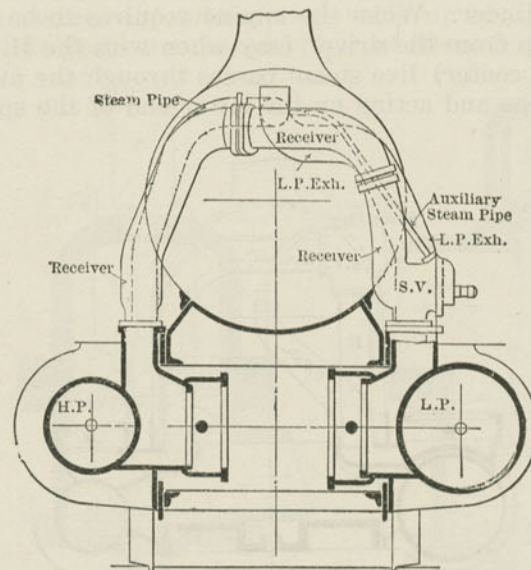

Fig. 323. Two-Cylinder Compound.
*A.* (1) With automatic "interceptors" or starting gears but without independent H. P. exhaust for starting: the von Borries of 1899, the von Borries-Swiss, the Worsdell, the Schenectady (Pitkin), the Dean, the Brooks (Player), the Rogers, the Baldwin (Vauclain), and the intermediate types of von Borries.
(2) With automatic starter but no interceptor nor independent H. P. exhaust for starting: the Lindner, the Meyer-Lindner, the C. B. & Q. Lindner, the Pennsylvania Railroad Lindner, the Cooke, and the Gölsdorf.
(3) With interceptor and independent H. P. exhaust at starting; the Mallet (old and new,) the Rhode Island (Batchellor,) the Richmond (Mellin,) the Pittsburg (Colvin,) and the latest von Borries.
*A.* A combined intercepting and starting valve which, when the engine is working compound, permits steam to flow from the receiver pipe into which the high-pressure cylinder exhausts, to the low-pressure cylinder. There is a plate which in these circumstances stands off from the end of the receiver pipe, but on starting, is seated on that pipe-end! its movement uncovering ports which let steam from the boiler enter the low-pressure cylinder. As the engine starts, the high-pressure exhaust automatically forces this intercepting valve from its seat on the end of the receiver pipe, and closes the ports, which let boiler steam into the low-pressure cylinder, so that the engine then works compound. (See Figs. 323, 324, and 325.)